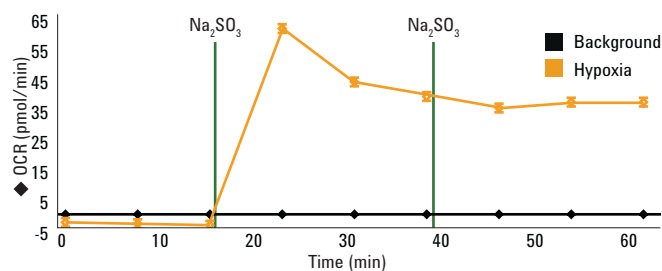

Figure 7. Typical profile of OCR in Hypoxia group wells before and after sodium sulfite injection.
- a. OCR after injection must be higher than before injection (Figure 7).